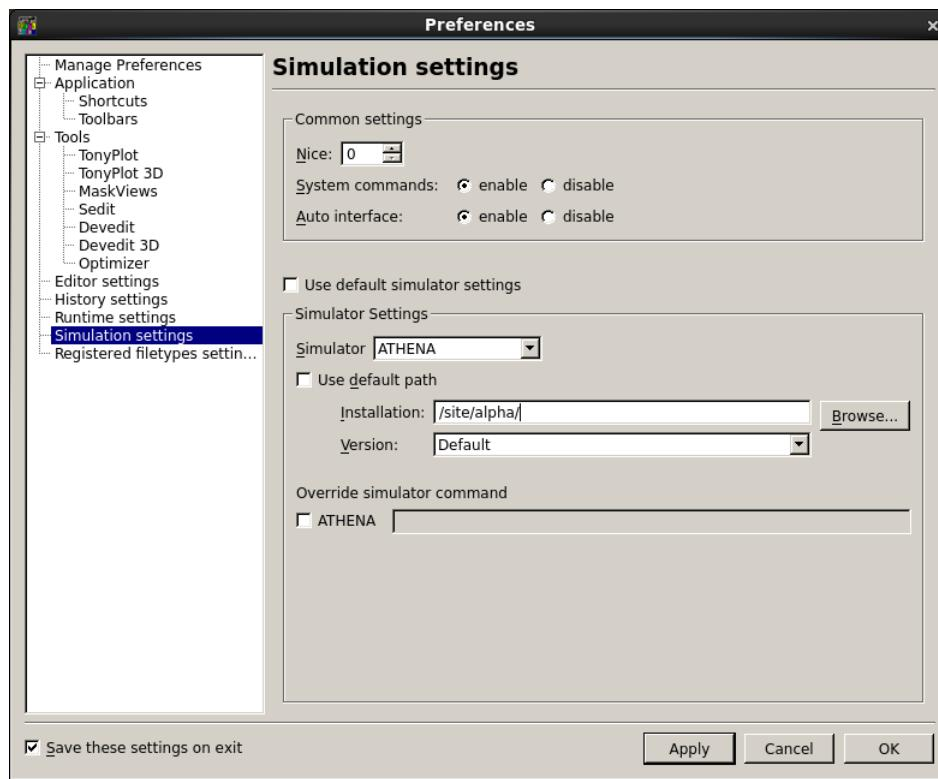
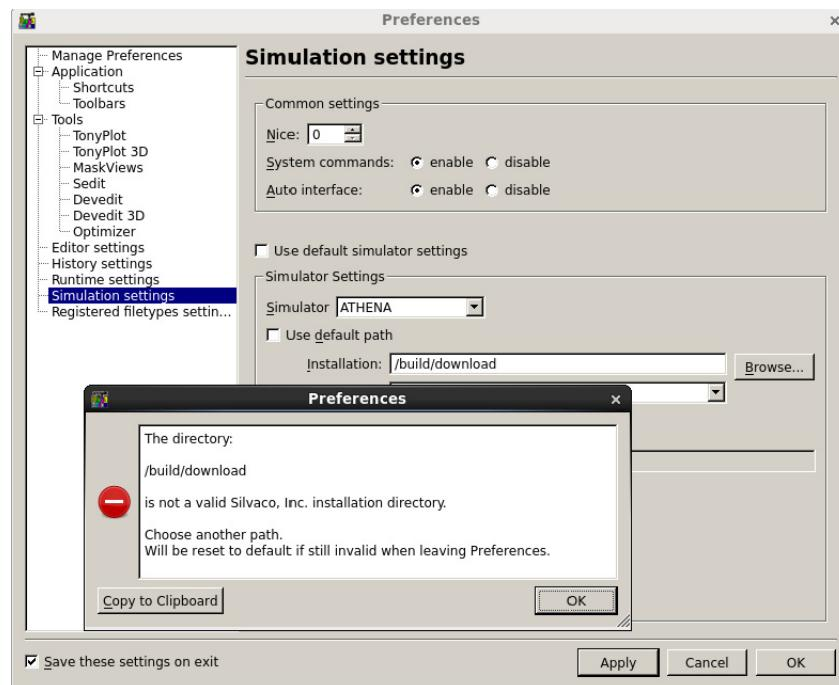

Figure 3-58 Selecting an Installation Path
Figure 3-59 Illegal Installation Path Selected
- Change the path of where a simulator is started from. If you click on the **Use default path** checkbox, then the path for the simulator is the same as where you started DeckBuild from. So if you installed your tools in, for instance, /opt/silvaco, then the simulators will be started exactly from there. If you happen to have several installations, for instance, to allow testing a particular release before installing it in the final location, then you can uncheck the **Use default path** box. This will enable the **Browse** button as shown in Figure 3-58. The selected directory needs to be a Silvaco installation. If you select a folder that does not contain the silvaco installation a dialog will appear (see Figure 3-59).